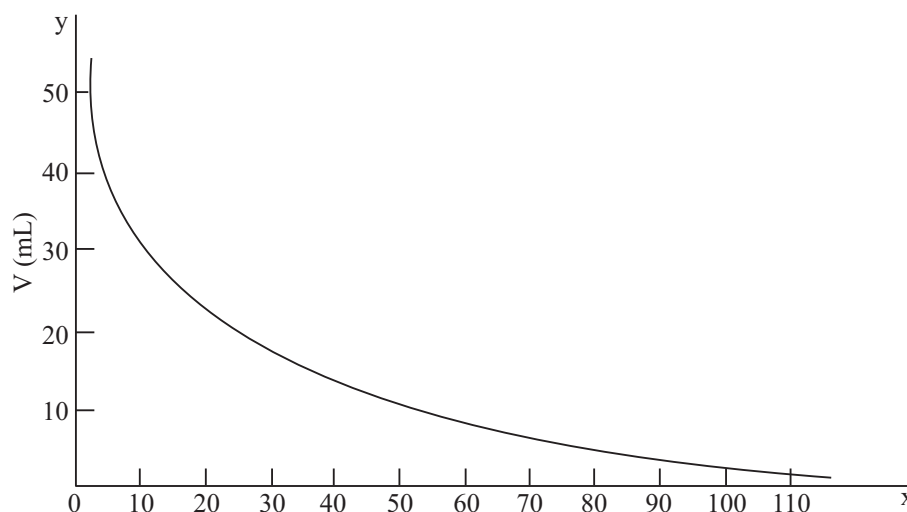

Fig. 9.3: Graph between volume of water in burette and observed time
- (v) Plot a graph between volume of water in the burette, V (along y -axis), versus observed time, t , in the stop clock (along x -axis) (Fig. 9.3).